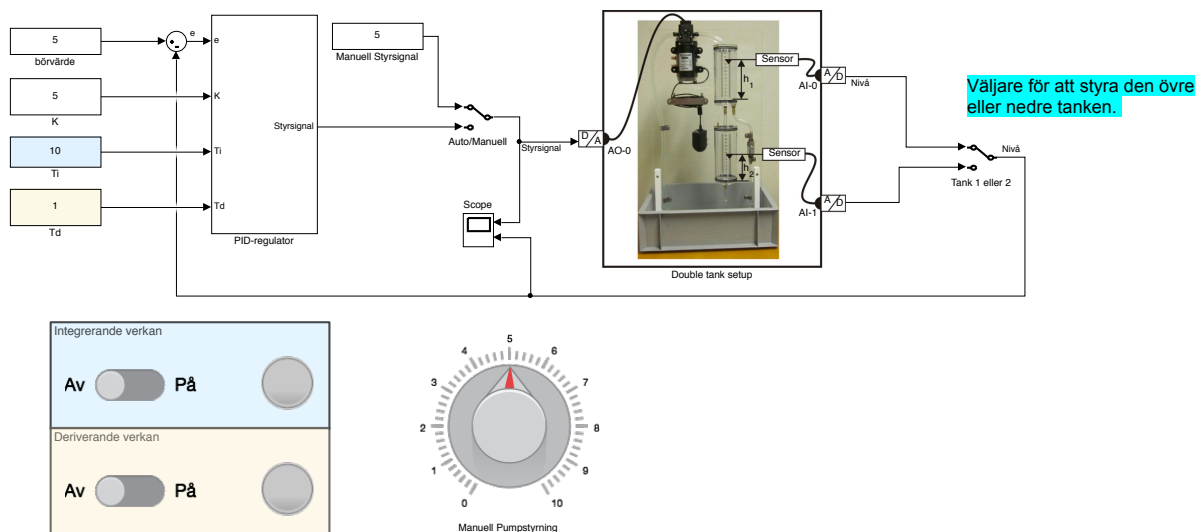

Figure 2: Controller in Simulink.
- Open the model `laboration2.slx` in MATLAB and verify that it looks like the one in Figure 2
Exercise 2.2 *In order to run the system in closed-loop (PID designed in the computer and double-tank process) one needs to first physically connect the two components. This is done by using cables to connect the process' connection box and the computer's connection box. Figure 2 summarizes which inputs in*
Exercise 2.3 Extract the file laboration2.zip. Then open MATLAB/Simulink in your computer and open the file Lab2R0004E.slx which is the Simulink model for the experiment. This Simulink diagram should look like Figure 2. Double-click on the Scope block to check the manipulated variable and measured variable during the simulation. Make sure that the controller is set to "Manual" mode, and the measured variable being used is the level of the upper tank.